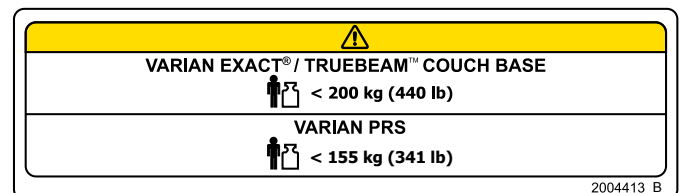

Fig. 32
10. Place 4" x 1.125" CAUTION label onto the back of the kVue under current 2" x 4" CAUTION label (Fig. 32).